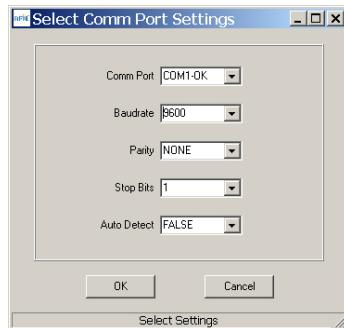

Figure 8-6 Select Comm Port Settings
2. Click on *Connect* to open the *Select Comm Port Settings* dialog box, as shown in Figure 8-6. If necessary, set the baud rate to 9600 bps. Set the *CommPort* to match the serial port connected to the Base, either the hardware port or the USB virtual serial port. Then click *OK* to activate the connection.